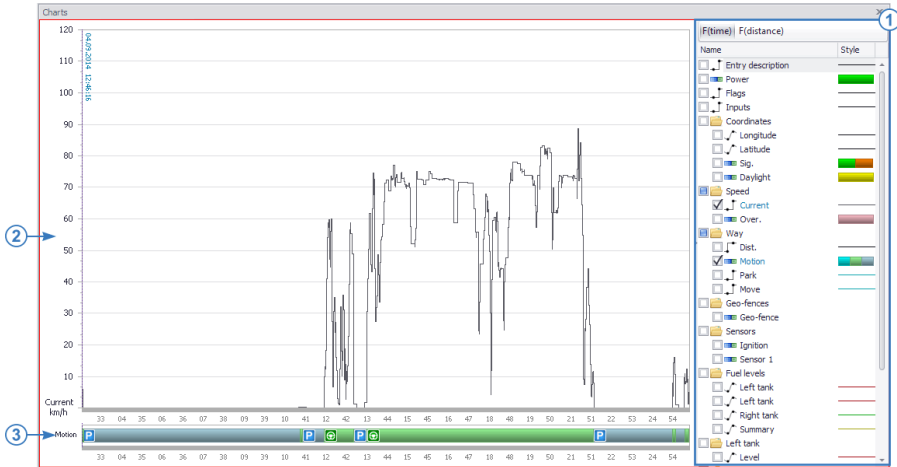

Fig. 156. Chart Viewer.
- When selecting the data for display in Chart Viewer a list of parameter graphs and charts available for the selected vehicle is displayed (Fig. 156, item 1).
- If the parameter has the “Switch” type, then a status change as a function of time of distance chart will be plotted for this parameter (Fig. 156, item 2). If the parameter is not a switch, then the parameter vs time or distance graph will be plotted (Fig. 156, item 3).